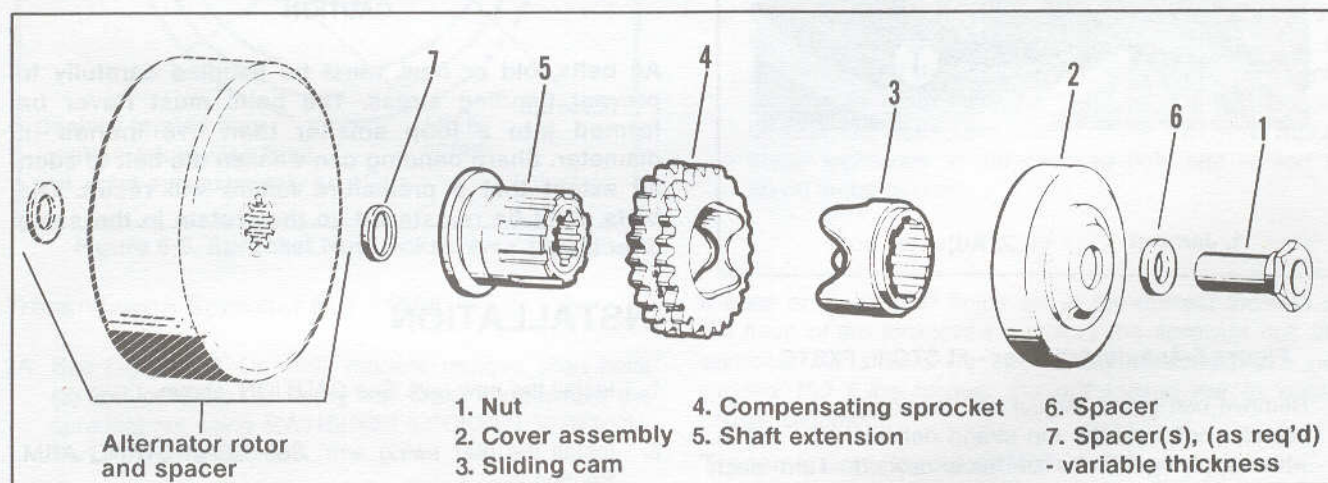

Figure 6-3. Compensating Sprocket
See Figure 6-3. Be sure correct spacer(s) (as req'd) (7) is used and spacers are assembled in the order shown.